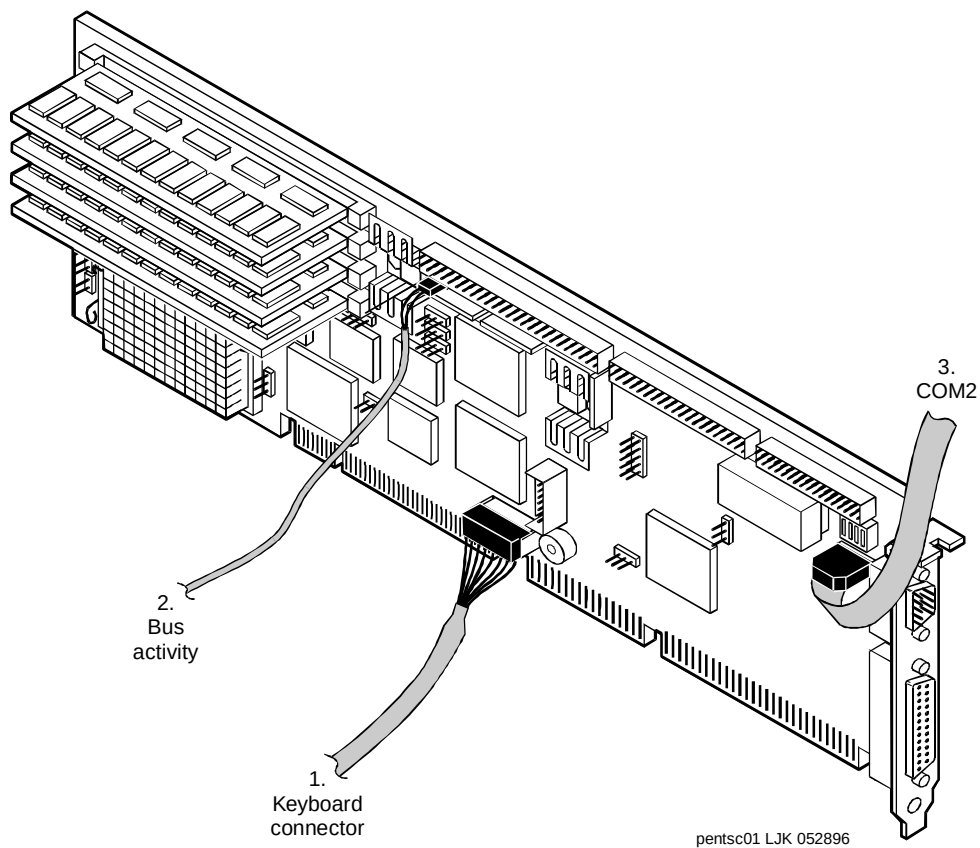

Figure 5-69. Attaching Cables to the P5 120 MHz CPU Circuit Card, Part 1
5. Attach the keyboard cable to the keyboard pins on the P5 120 MHz CPU circuit card (Figure 5-69).
7. Attach the disk activity cable to the P5 120 MHz CPU circuit card with the red lead toward the back of the MAP/100C (Figure 5-69).
8. Install the rear COM2 cable to the P5 120 MHz CPU circuit card (Figure 5-69).
9. Dress this cable to the side (Figure 5-69).